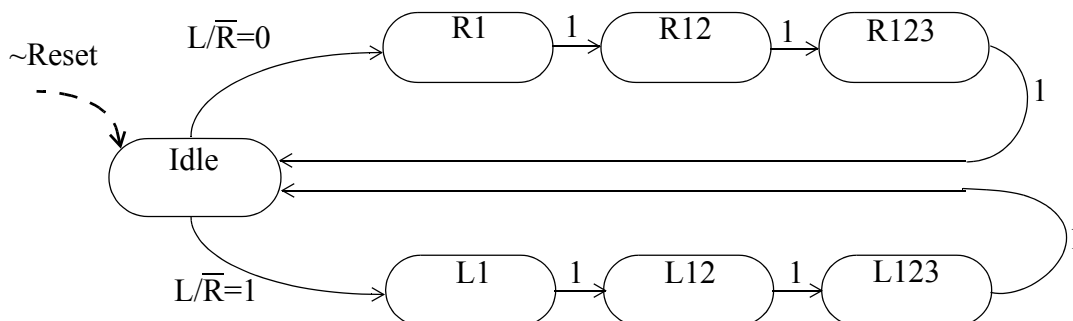

Fig 2: State diagram for the Detour Signal design
You all know the detour signal at road repair sites. The design in this lab is a simplified version of those light boards. It has four groups of lights -- GL (Group Left), G1, G2 and GR (Group Right) -- controlled in sequence to indicate *detour to the right* or *detour to the left* (Figure 1). We provide a switch (L/\bar{R}) to choose the detour left or detour right action. The complete state machine (Figure 2) only looks at the switch during the Idle state. It then proceeds through a series of states (detour left or detour right) and then returns to Idle state.
6.2 Open the `ee2011_detour.sch` schematic file. This is an incomplete implementation of the state machine. **Complete the design** by adding additional state memory (flip-flops), next state logic, and output function logic. Notice the two different types of flip-flops used -- FDP and FDC. Determine the difference between them using the "Symbol Info" button in the schematic editor's "Symbols" tab. Your completed design must implement the state machine in Figure 2 and then produce the four output signals (**OFL**): **GL**, **G1**, **G2** and **GR**.